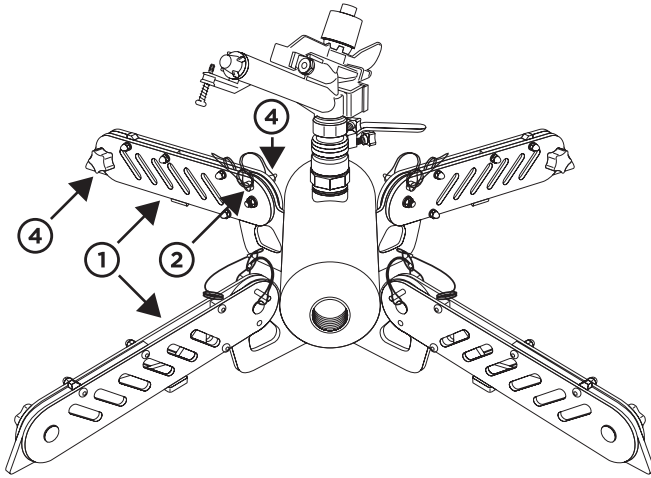

Figure 2.
- Set up feet at an angle to the ground as shown in *Figure 2*, for more stability. To do this remove the pin **2** from each leg rotating the legs out until they hit the ground. Do this for all legs.
- Starting from either end lift the entire assembly up with one hand very slightly and rotate legs to an angle to the ground while keeping steady pressure on the pins **2**, *Figure 2*.